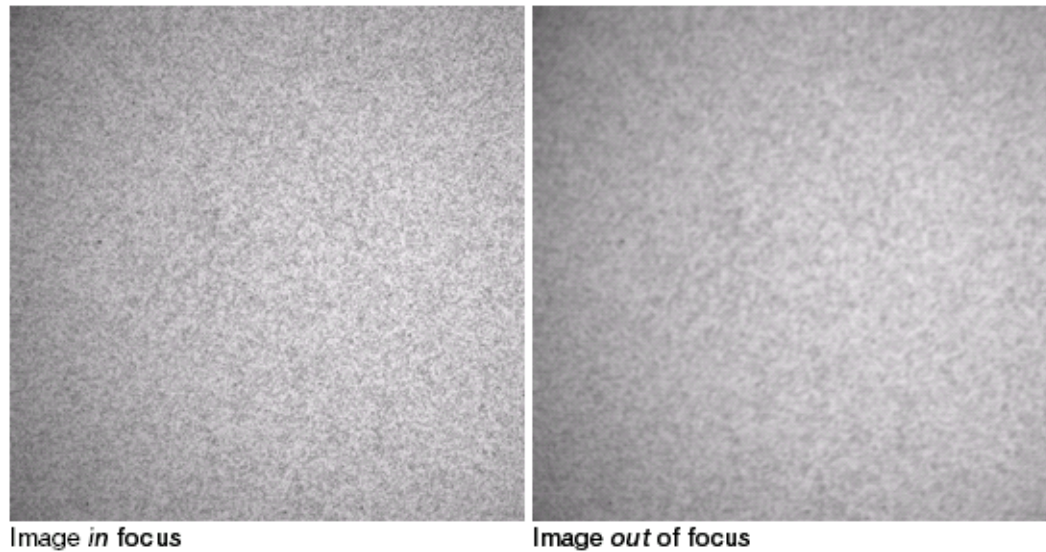

Figure 80 Examine the image on the screen.
- When the Imager displays READY, click the **Acquire** button, then examine the image on the screen (see Figure 80 on page 106).